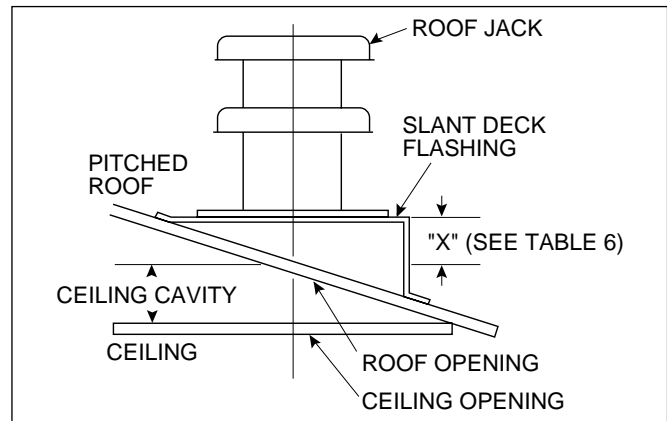

Figure 2.
2. Add dimensions "A" and "X" from Table 1 and Fig. 2 if slant deck flashing is used.